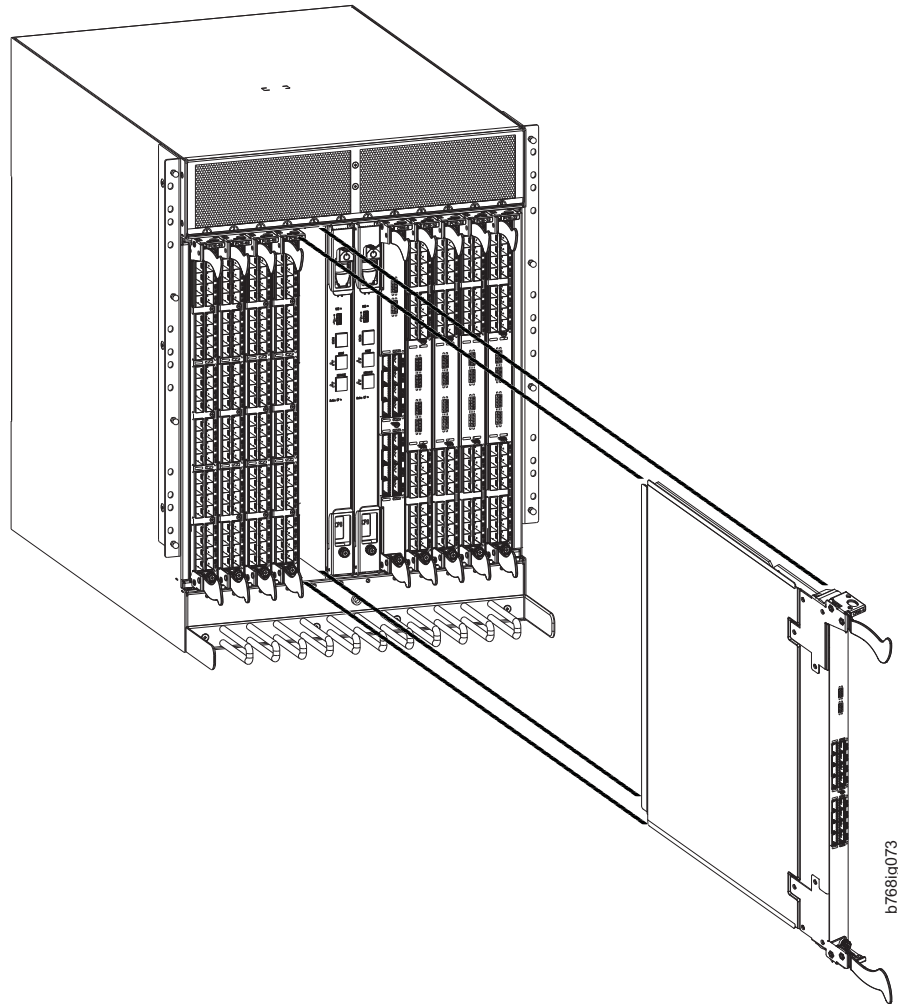

Figure 28. Removing the core switch blade
This section describes how to remove and install a core switch blade. Each SAN768B-2 has two core switch blades: one in slot 5 and one in slot 8. See Figure 28 on page 85.
4. Open the ejectors by rotating them toward the center of the blade face. Pull the blade out of the chassis using the ejectors. (see Figure 28 on page 85).